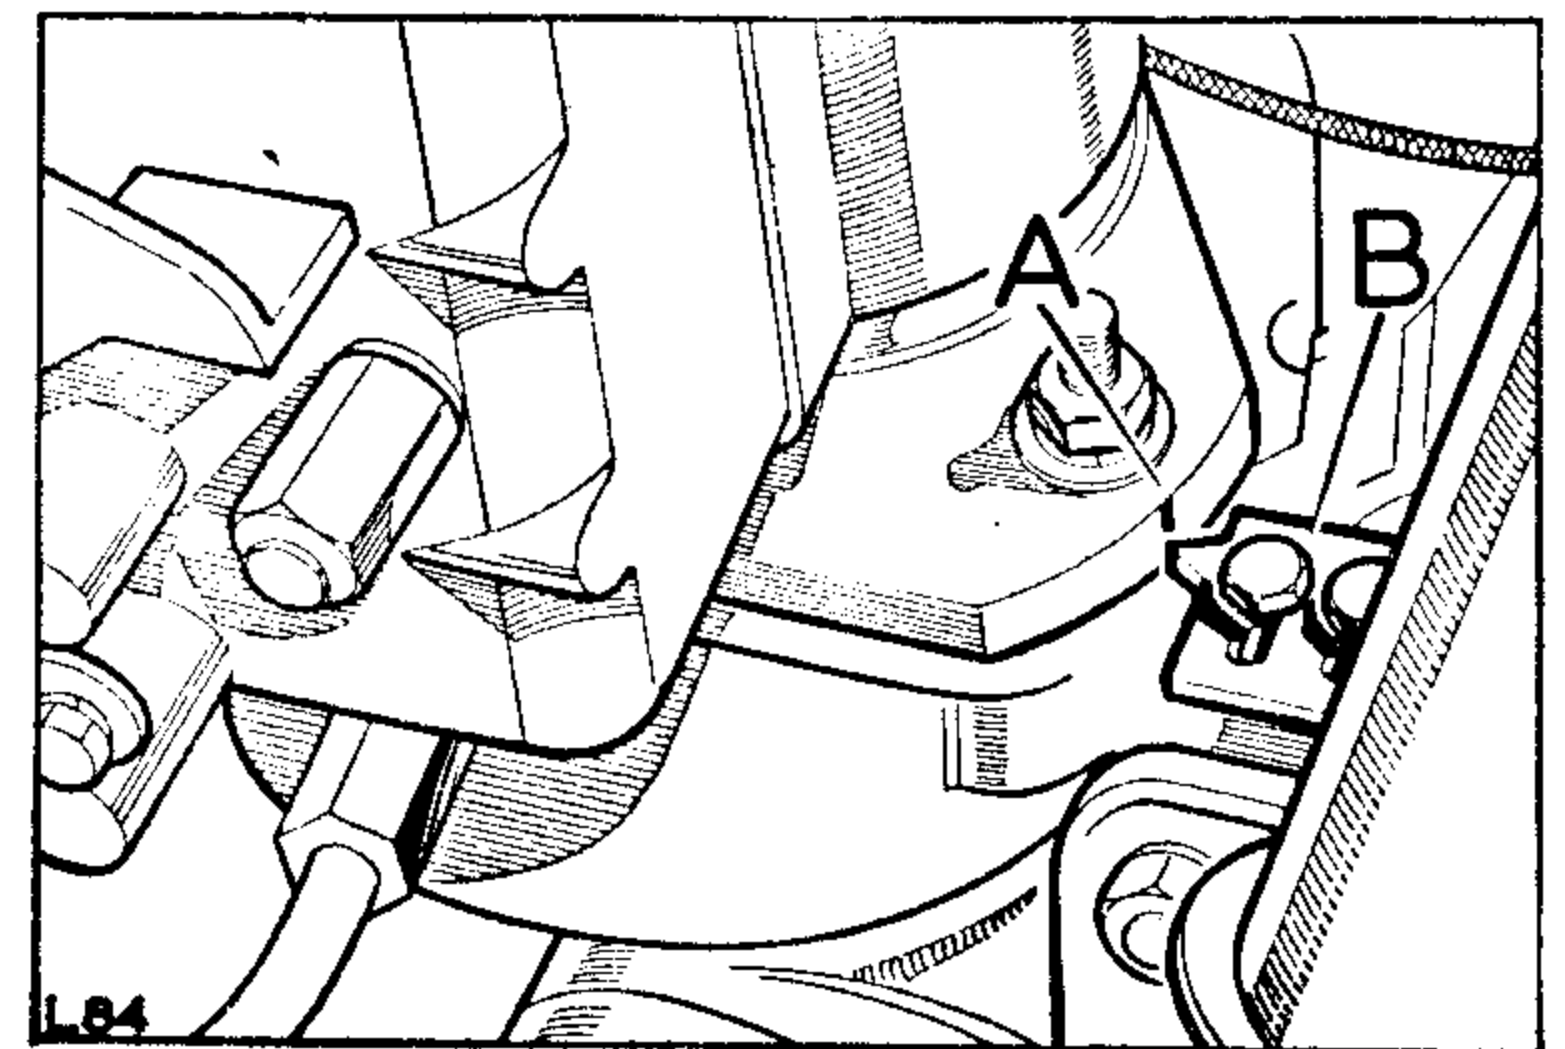

Fig. 28. Distributor pump correctly timed
Then offer pump to engine, ensuring that the timing mark (A) Fig. 28 on the pump flange coincides with the timing pointer (B) Fig. 28.